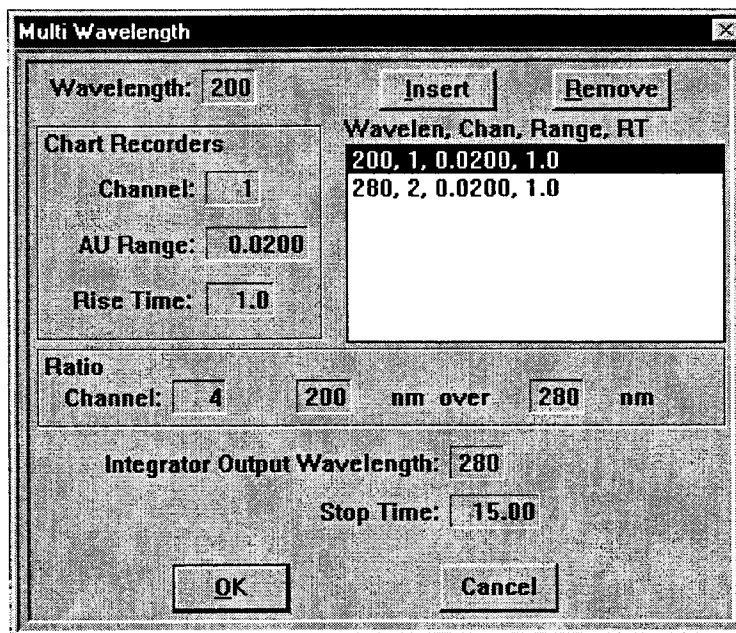

Figure 5-45 Multi-Wavelength Screen—BioFocus 3000
3. If you choose Multi Wavelength, you will see the screen shown in Figure 5-45. Enter the wavelengths that you wish to use when running your method. Also, enter strip chart parameters. If you wish to have the software calculate ratios of absorbance for two wavelengths, enter ratio information. Click **OK** to save the information and return to the detector setup screen.
Clicking **Multi Wavelength** allows you to monitor up to 32 different detection wavelengths, either in the range 190 nm through 365 nm or in the range 366 nm through 800 nm. Up to three wavelengths can be displayed on the **BioFocus 3000** screen during an automation sequence (see Figure 5-45). Three separate chart recorder channels are available for any three wavelengths plus a fourth channel for the ratio of any two of the three wavelengths.